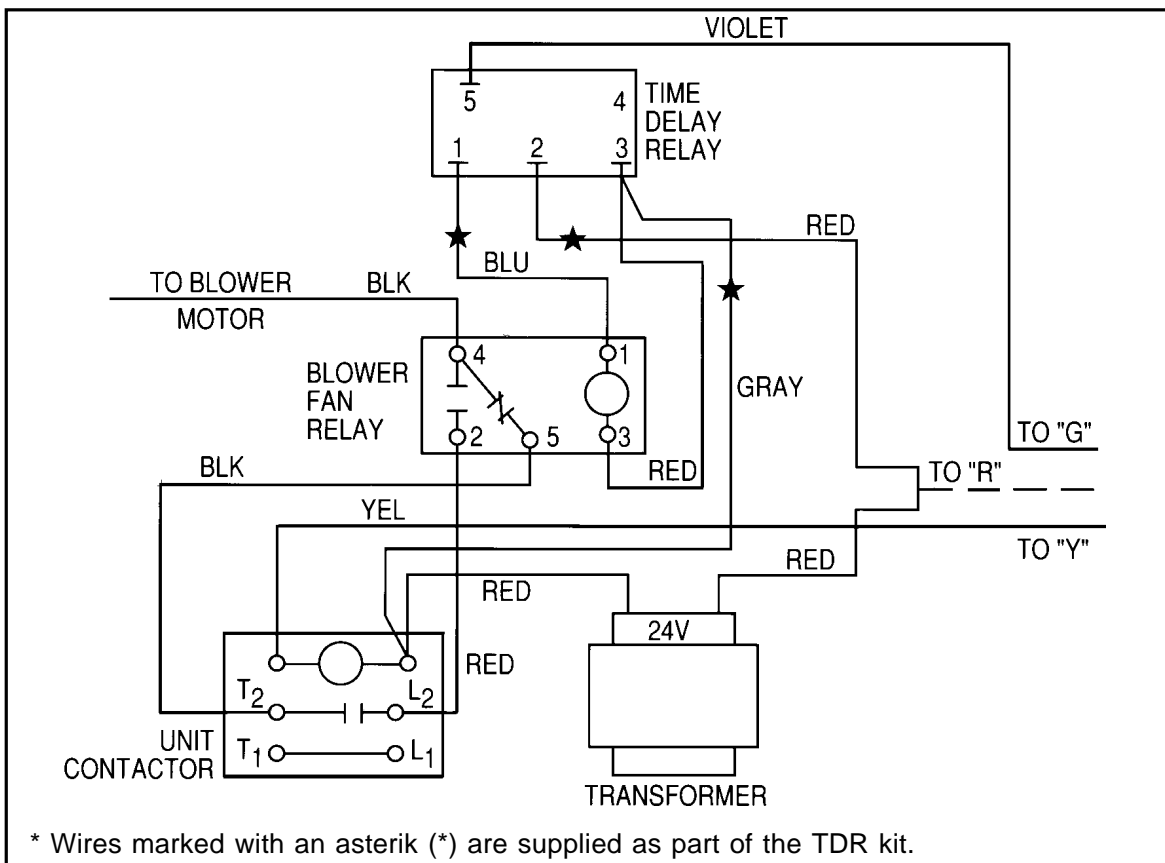

Figure 1. Wiring Diagram for Single Package Air Conditioner Application.
4. Make wiring connections per the applicable Wiring Diagrams provided with this kit. See Figures 1 - 4 on the following pages and follow the instructions for either the single package unit, the air handler or the electric furnace.